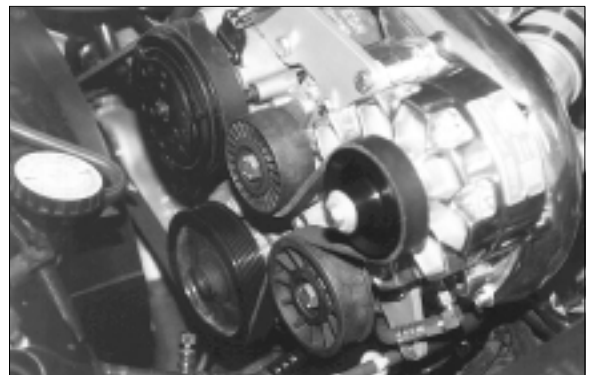

Fig. 8-a
- B. Route the belt around the outside of the supercharger drive pulley then around the inside of the idler pulleys as shown in Fig. 8-a).